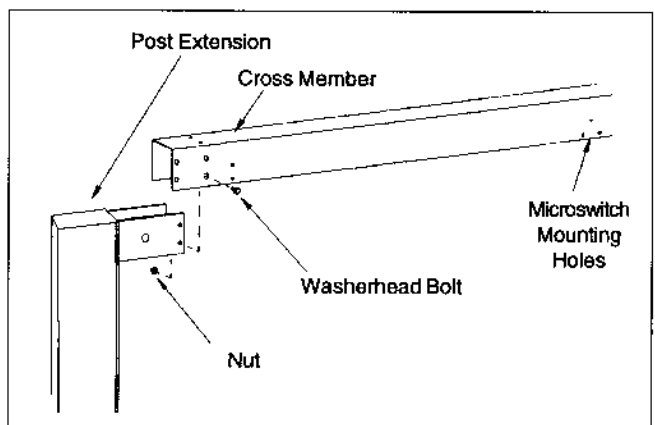

Figure 9 - Mounting the Cross Member
9. Attach the bumper bar brackets to the cross member (Figure 9). Attach the brackets to the cross member with 2 (two) 3/8 inch washerhead bolts, washers, and nuts (one bracket at each end of the cross member). Slide the bumper bar into the holes in each end of the bracket. Place a push-on fastener on each end of the bumper bar on the outside of the bracket.
10. Attach the cross member to the top of the post extensions (Figure 9). The microswitch mounting holes in the center of the cross member should be facing the rear of the lift. Use 4 (four) 3/8 inch washerhead bolts and nuts on each side of the cross member.